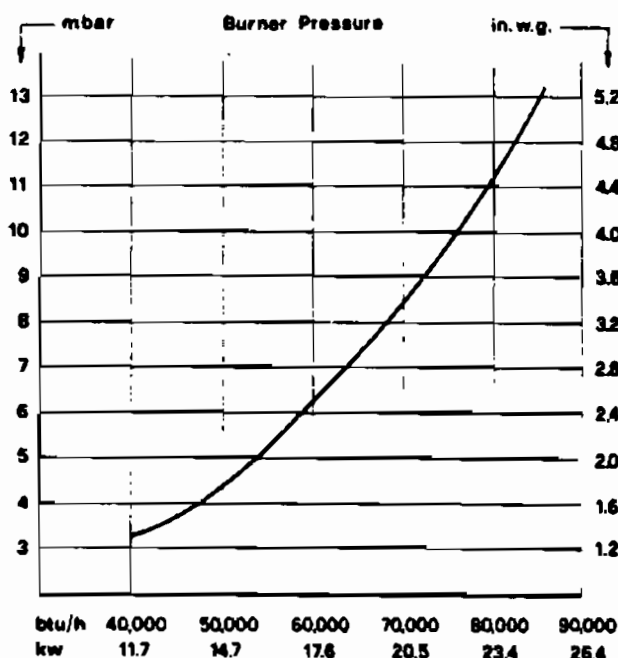

Fig. 22 Central heating output
6.5.6 Refer to fig 19 and check that the pilot flame is correctly set. If it is necessary to adjust the pilot refer to cl. 6.6.8.3 for access instructions, Fig 22 for location of regulator screw. Turning clockwise decreases flame.
First refer to fig 22 to establish the burner pressure needed to give the heating output you need (e.g. for 17.6kW a pressure of 6.25mbar is needed).